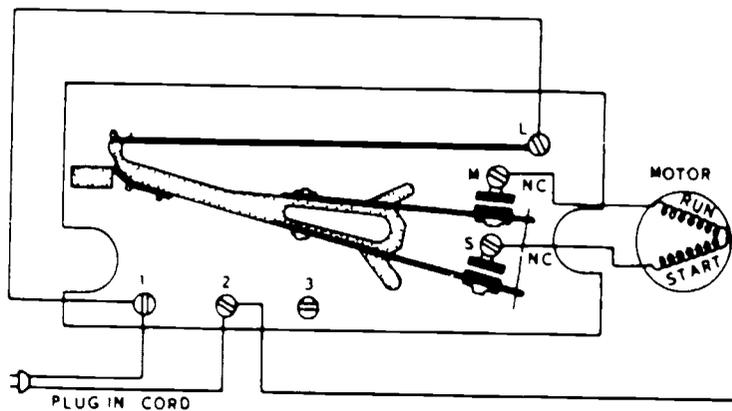

Figure 14. Hot Wire Relay
**Hot Wire Relay.** This relay operates on the principle that electricity passing through a conductor produces heat, and heat makes metals expand. Figure 14 illustrates a typical hot wire relay installation.
The contact points, see figure 14, at M and S are normally closed. When the motor control closes, current flows from the line to terminal I and up to terminal L. The current flows from terminal L down the hot wire and through the internal mechanism, to the M and S contact points. From there it flows through both the run and start winding and out the common terminal to the line. At this moment current is running through both the run and start windings and the motor starts. At startup, there is a large current flow through the hot wire. The hot wire gets hot and expands. This small increase in length allows the internal mechanism to move enough to open the start contact points. This stops the flow of current through the start winding but the motor continues to operate on the run windings. If the current flow through the run windings becomes excessive, the hot wire will again increase in length and the internal mechanism will move enough to open the M contact points and stop the motor.